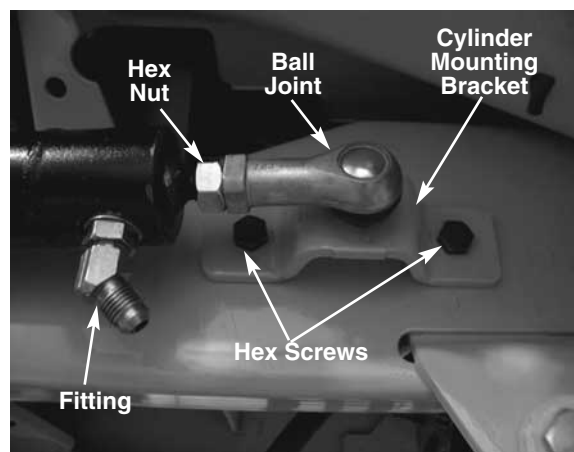

FIGURE 3.
5. Remove both of the hex head screws and the hex flange nuts from the cylinder mounting bracket using a 9/16 socket and a 9/16 wrench. See figure 3.